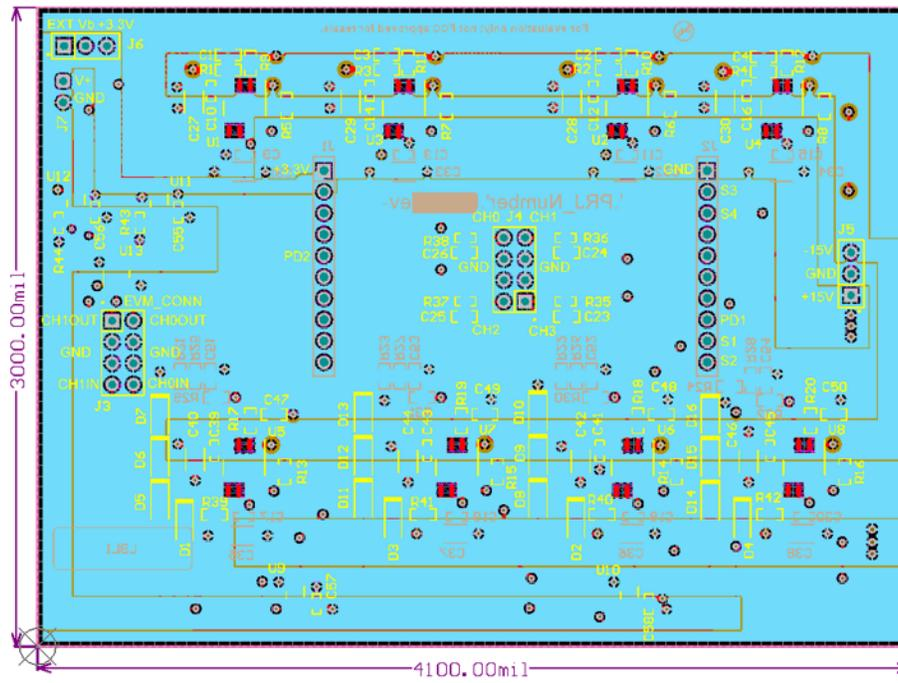

Figure 24. GND Fill on Layer Two
- Add a GND fill on layer Signal 2 if the open area has not being used. The GND fill helps CH2_OUT and CH1_IN because they have to go through vias to the bottom layer (Figure 24).